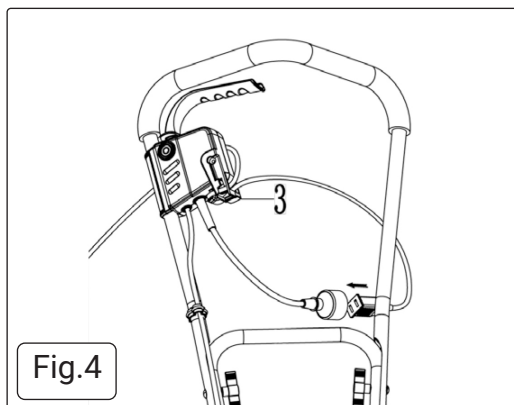

Fig.4
- Always read the instructions in this manual, and familiarise yourself with the controls used to operate this machine. See fig.4 & 5.